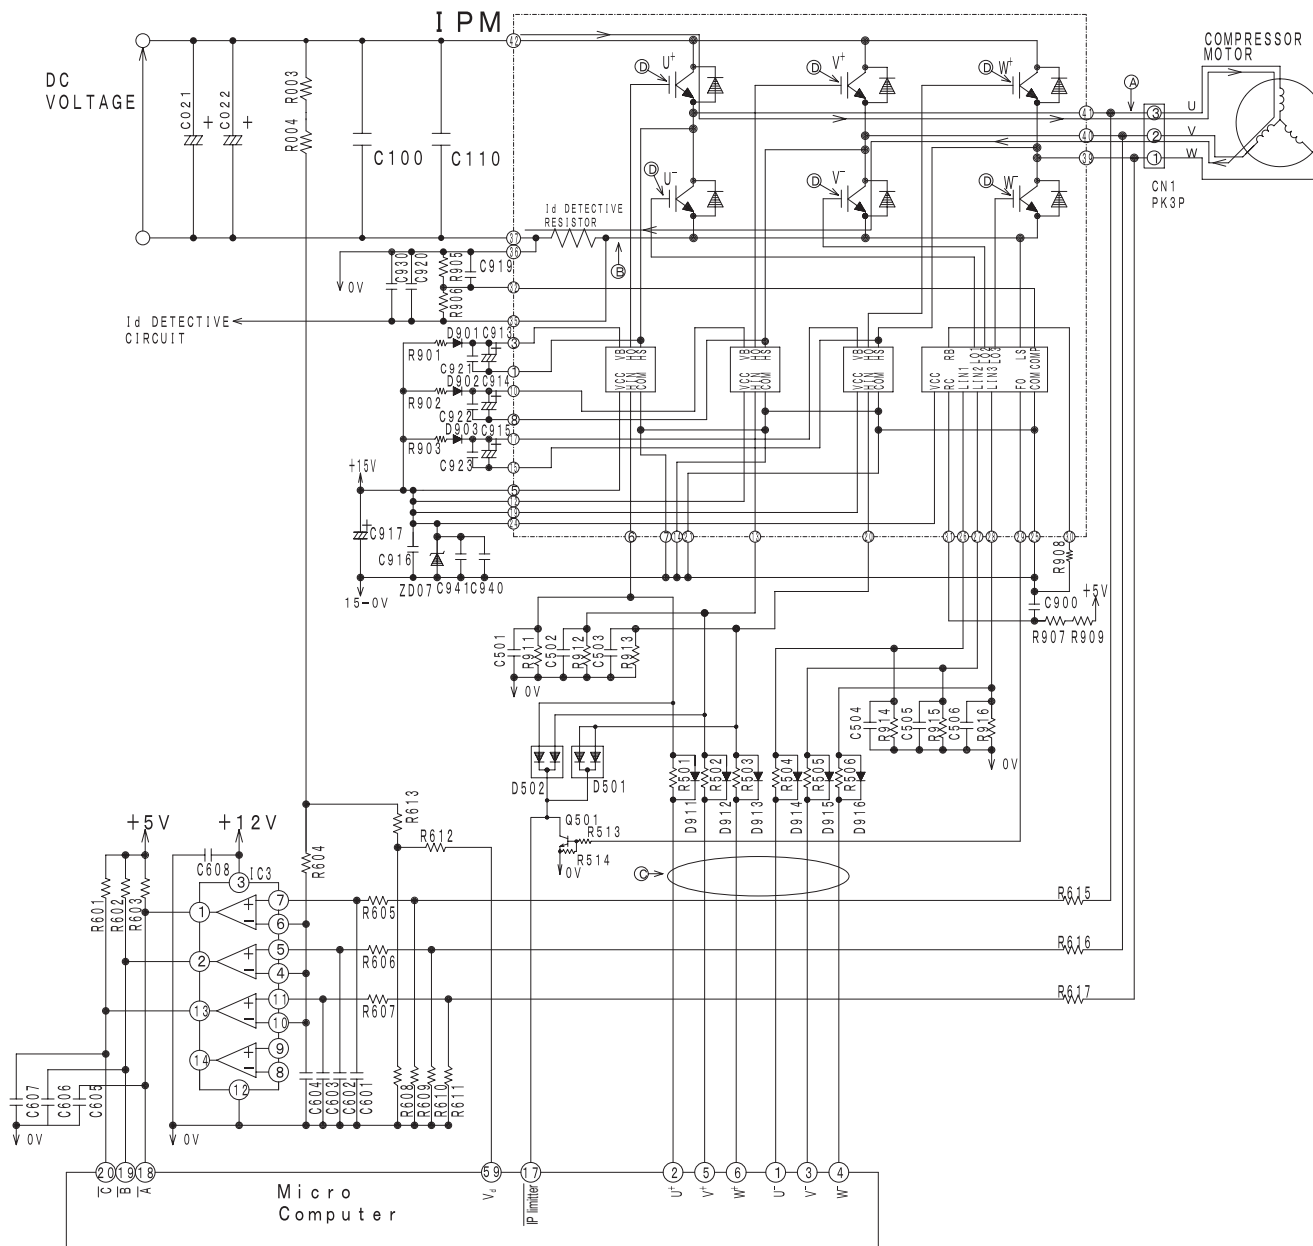
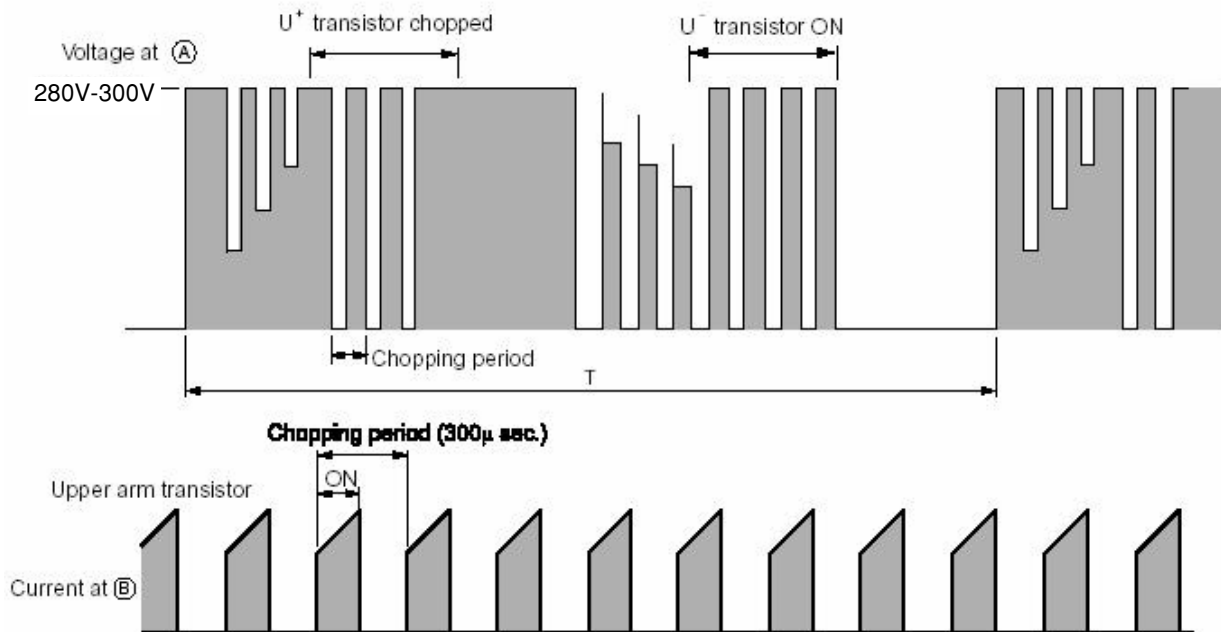

Fig. 4-1 Intelligent power module circuit (U⁺ is ON, V is ON)
Fig. 4-3 Voltage waveform at each point
- Fig.4-1 shows the intelligent power module and its peripheral circuit. The three transistors on the positive e side are called the upper arm, and the three transistors on the negative d side, the lower arm.
At point E: U₊ is ON, V is ON (circuit in Fig. 4-1)
Fig. 4-3 shows voltage waveform at each point shown in Figs. 4-1 and 4-4. First half of upper arm is chopper, second half is ON, and first half of lower arm is chopper, second half is ON.
Since current flows at point (B) only when U⁺ transistor is ON, the current waveform at point (B) becomes intermittent waveform as shown in Fig. 4-3. Since current at point (B) is approximately proportional to the input current of the air conditioner, input current is controlled by using DC current (I_d) detection resistor.